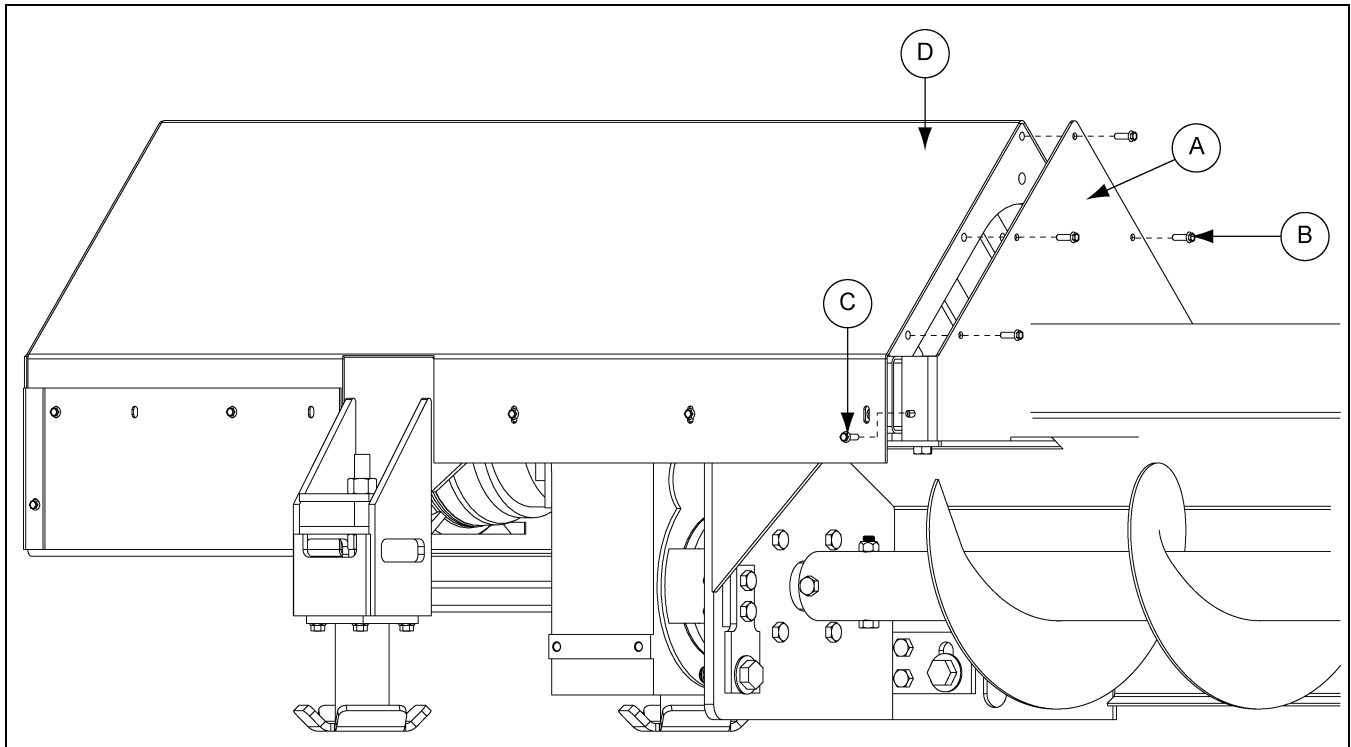

Figure 4AP
1. Attach auger motor front cover (A) to the auger motor hood (D) and install with hex bolts (B).
2. Install hex bolts (C) and nuts to each side of the auger motor hood (D). (See Figure 4AP.)